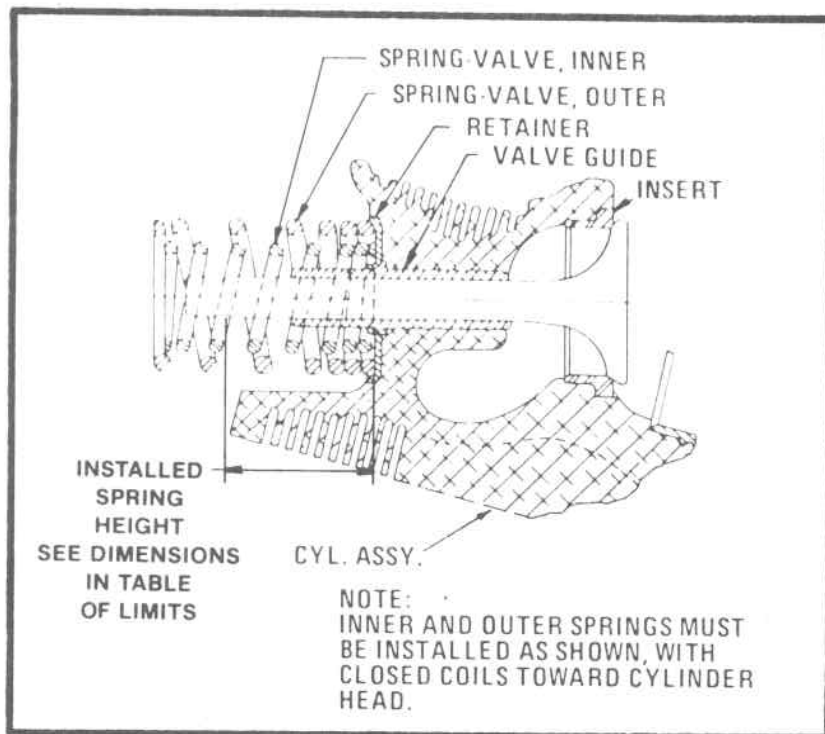

FIGURE 72-50-04. VALVE SPRING INSTALLATION.
B. Place valve spring retainers (17) over valve guides (8 & 9), cupped side up. Install inner and outer valve springs (15, 16), per instructions in Figure 72-50-04, rotocoil (14). Compress springs and install keys (13). Make certain keys are properly seated before releasing pressure on springs. Remove cylinder from fixture and set it upright on a bench. Strike end of each valve stem sharply with a rawhide mallet to set stem keys. After valve mechanism has been assembled, check valve spring height according to dimensions given in table of limits figure 72-30-08.
C. Install new packing (42) on each cylinder skirt. Push against flange and make certain none are twisted. Coat cylinder bore walls thoroughly with castor oil or Grade 50 MHS 27 oil.